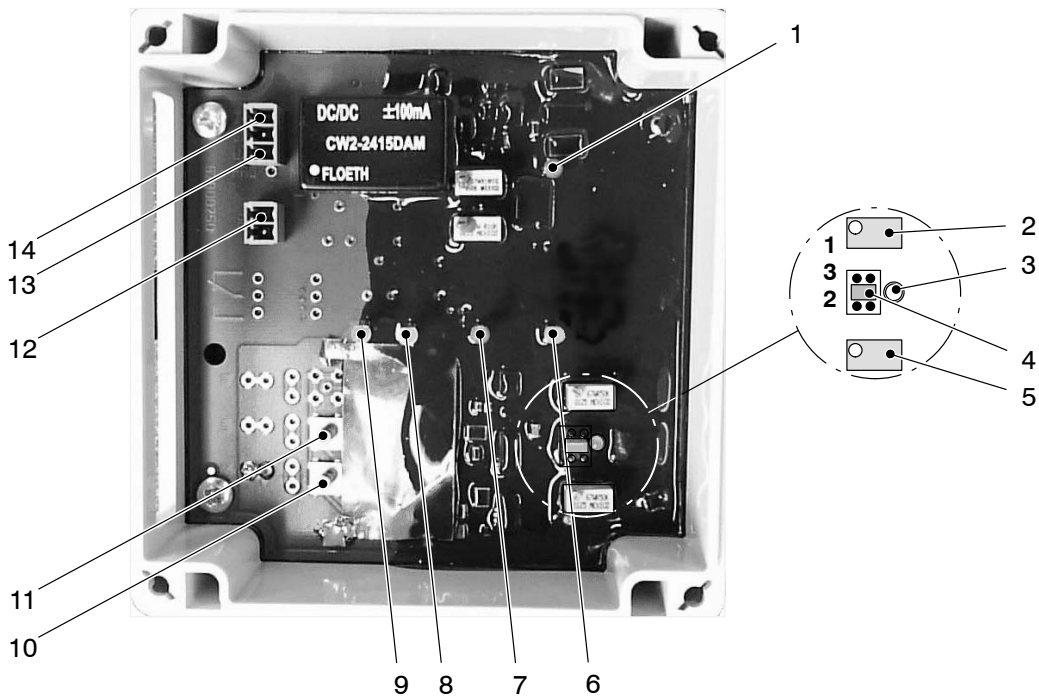

Fig. 7-38
CAUTION: When calibrating, keep hands or conducting tools away from coaxial connections (10, 11, Fig. 7-38) to prevent distortion of the signal.
- Operating voltage applied (LED *Operating voltage* (1, Fig. 7-38) lit).
NOTE: The LED *Reference section* (9, Fig. 7-38) lights up as soon as the reference section (area between the lower inactive section and the sensor measuring range) is covered with material.